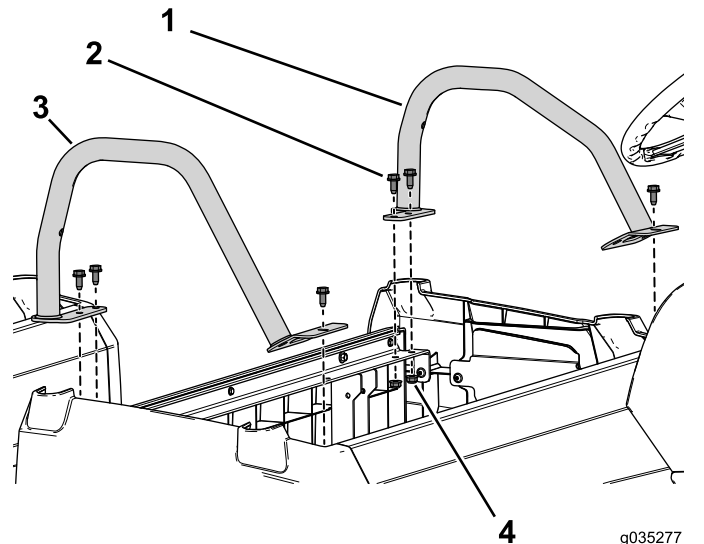

Figure 51
3. Use the 6 flange bolts (3/16 x 3/4 inch) and flange nuts to secure the left and right hip restraints to the front seat base (Figure 51).